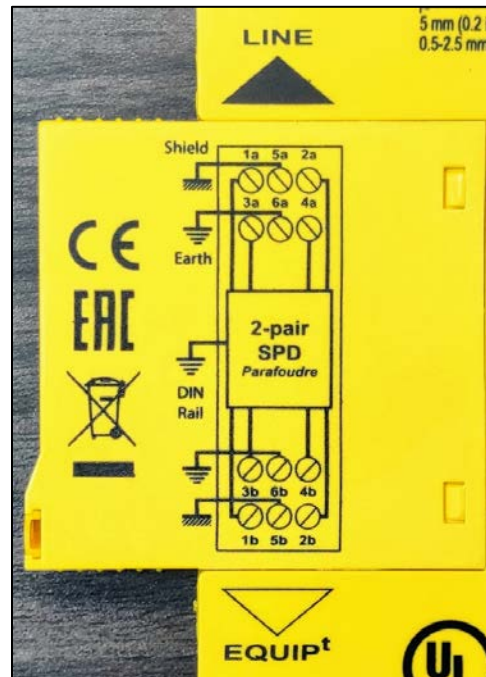

Figure 5 Wiring Diagram on the RS422 SPD
- b. (RS422) Insert the black conductor to the terminal with the shield symbol (5b), the white conductor to the 1b (or 2) terminal, the green conductor to the 2b (or 6) terminal, the orange conductor to the 4b (or 12) terminal, and the red conductor to the 3b (or 8) terminal, as seen in Figure 5.
- b. (RS422) Attach the ground signal to the terminal with the shield symbol (5a), the TMU TX+ signal to the 1a (or 1) terminal, the TMU TX- signal to the 2a (or 5) terminal, the TMU RX+ signal to the 3a (or 7) terminal, and the TMU RX- signal to the 4a (or 11) terminal. See Figure 5 for more information regarding wiring.